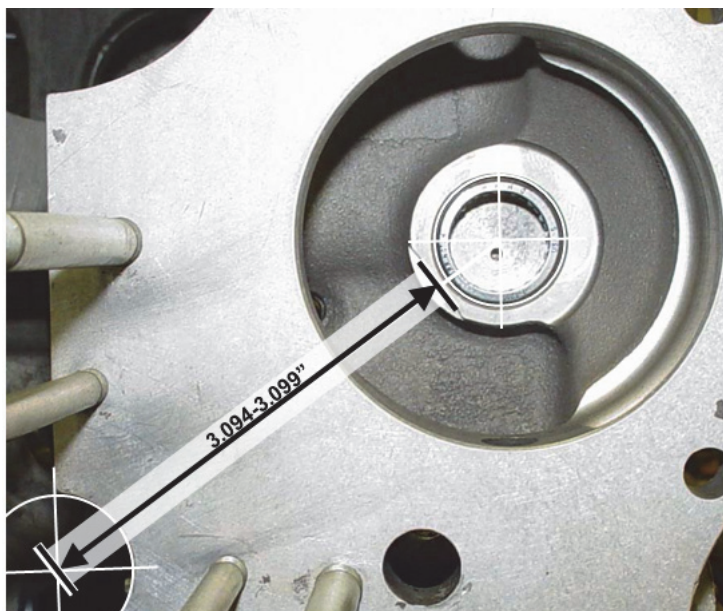

Figure 3. Radius Clearance Cut Distance from Camshaft Centerline
- a) Measure 3.094"- 3.099" from the camshaft bore centerline to the center of the starter drive bearing boss (Figure 3).